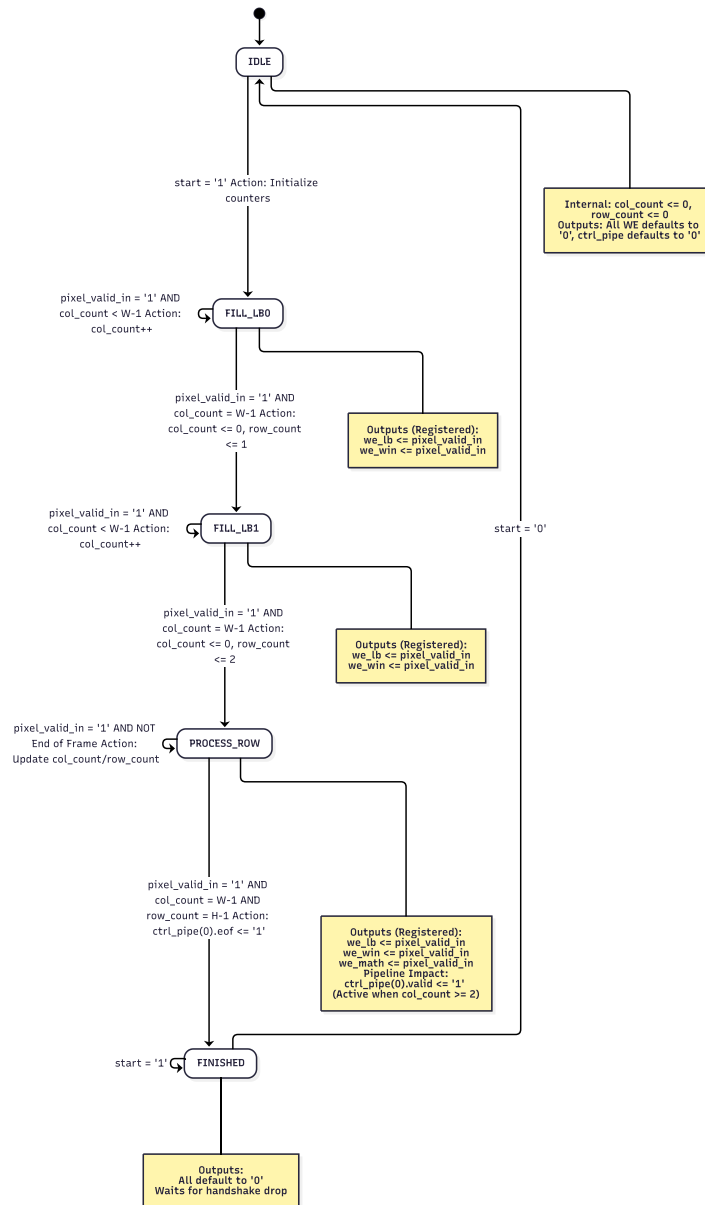

FIGURE 5 – Sobel Finite-State Machine
- Complete the FSM logic based on the provided description and figure 5.